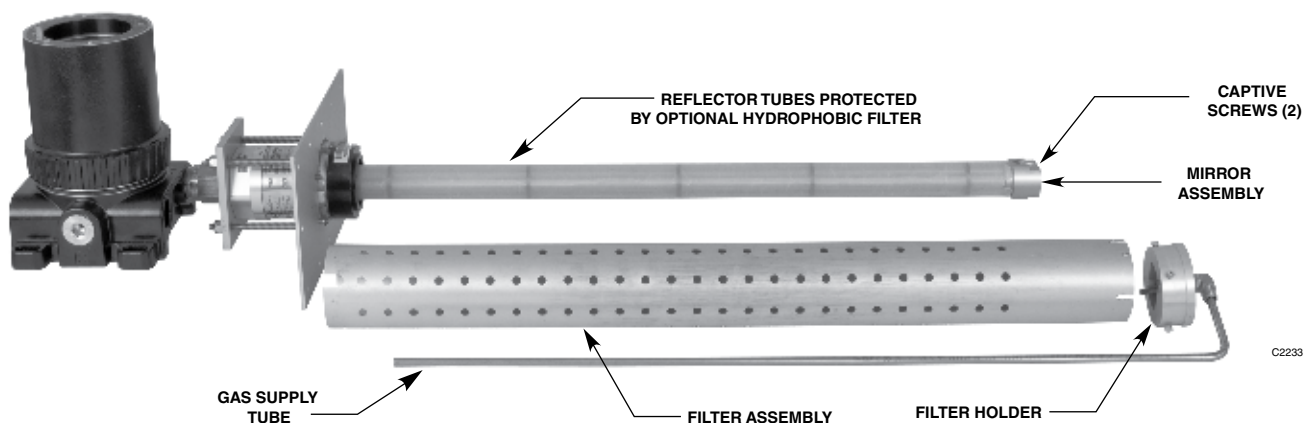
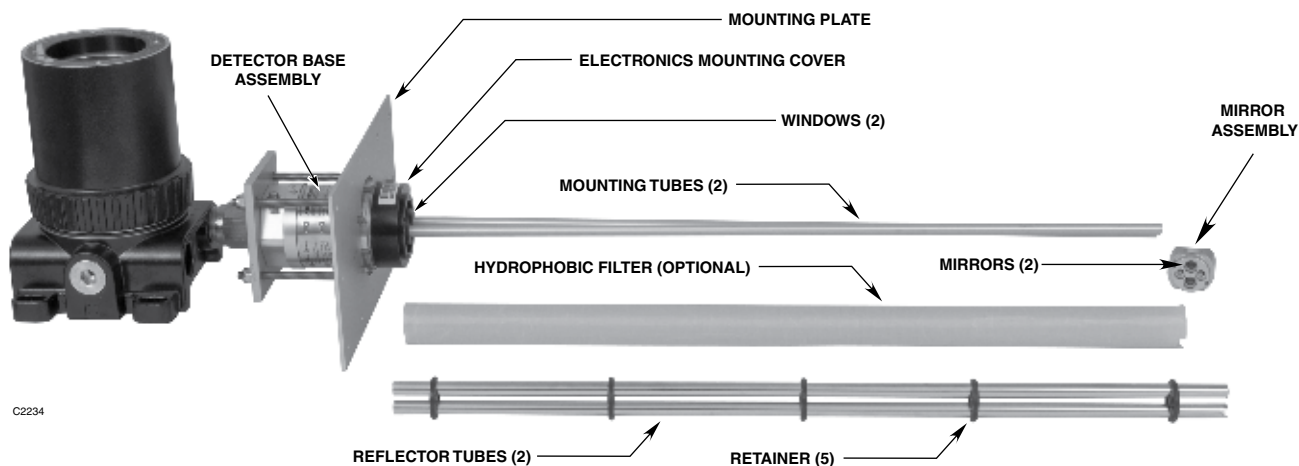

Figure 12—PIRDUCT with Filter Assembly Removed
Figure 13—PIRDUCT Disassembled for Cleaning
1. Loosen the two captive screws on the end of the filter assembly, then remove the filter assembly as shown in Figure 12.
2. Loosen the two captive screws on the mirror assembly (Figure 12) and remove the mirror assembly from the reflector tubes. See Figure 13. Note the orientation of the mirror assembly and reflector tubes. They should later be re-assembled in the same way (mirror assembly not rotated 180°).
3. Remove the hydrophobic screen and reflector tubes from the mounting tubes as shown in Figure 13. Do not remove the electronics mounting cover.
9. Tighten the two captive screws on the mirror assembly. See Figure 12. Tighten the screws evenly. Do not over-tighten (apply 1 N-m minimum torque).
10. Slide the filter assembly over the mirror assembly and rotate until it is seated securely. If it is not oriented correctly, the filter assembly will not slide onto the unit. Fasten the two captive screws. See Figure 12.